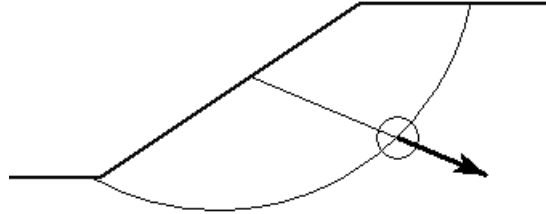

Figure 6-14: Support force is applied at the point of intersection with slip surface.
- For End Anchored support, Grouted Tiebacks, and Soil Nails, the orientation of the applied force is assumed to be parallel to the direction of the support, as shown in Figure 6-14.